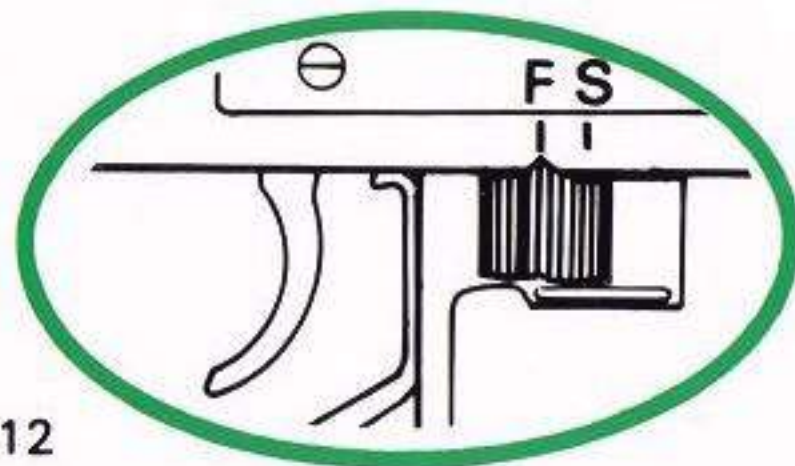

fig. 12
2. Set fire selector to "F" (Fire) (fig. 12).